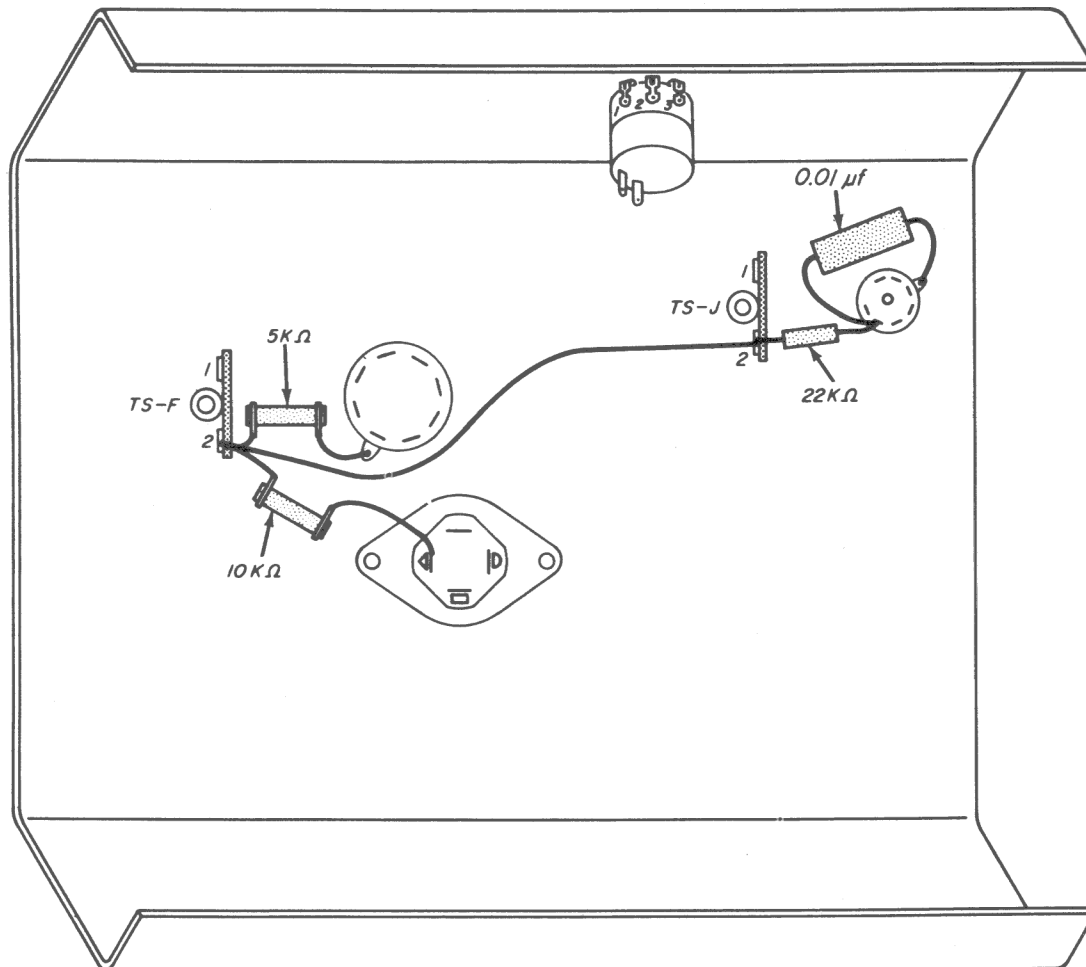
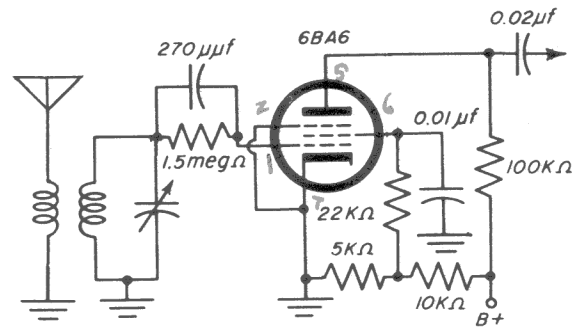
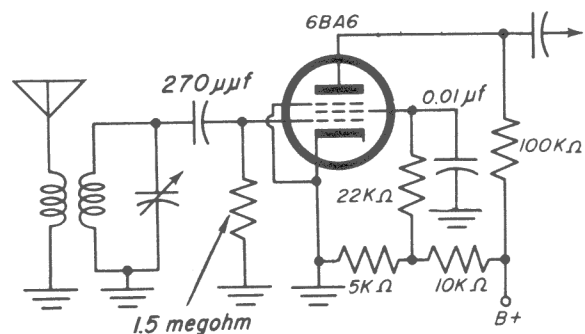

Fig. 27-10
Fig. 27-11
Fig. 27-12
Step 1. Connect your 10 k-ohm 5-watt resistor from the Δ (triangle) section of the electrolytic capacitor to lug 2 on TS-F, as shown in Fig. 27-10.
Step 8. Measure the voltages at the various tube electrodes as called for in Table B, and compare them with the normal operating voltages given in the table. If there is a discrepancy of much more than 20 percent, find the trouble by checking against Fig. 27-10 and the schematic diagram of Fig. 27-11 before you proceed with the experiment.
Step 11. Remove the 1.5-megohm grid resistor from across the capacitor and connect it from the grid to a grounding lug on the 6BA6 tube socket. The circuit should now be as in Fig. 27-12.
tor. In locations where there are many strong stations, stations will be hard to separate, and one or more will be heard in the background. Detection in the grid-leak detector actually takes place in the grid circuit, as shown in Step 4 of Experiment 27-4, where you should have been able to get an audio signal at the grid of the detector tube. This demonstrates that the action of the grid-leak detector is very similar to that of a diode detector, with the grid and cathode of the tube acting much like the plate and cathode of a diode. The amplified audio output appears at the plate of the detector tube. When the grid resistor is taken from across the capacitor, as in Fig. 27-11, and connected from grid to ground, as in Fig. 27-12, no difference in operation is noted, since there is no significant difference between the two circuits. The schematic in Fig. 27-12 is just another way of drawing the circuit. The grid leak detector forms the